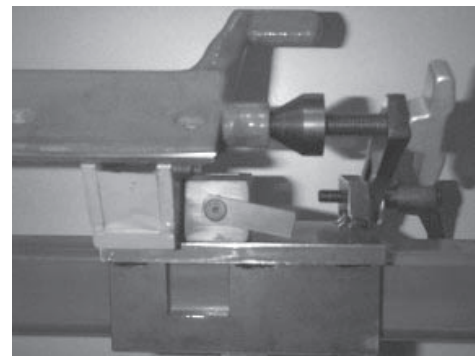
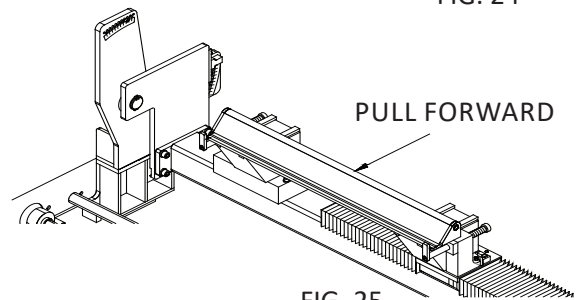

FIG. 24
FIG. 25
2. Position the bedknife so the unworn tips on a used bedknives or the ends of a new bedknife are on the gage tips. See FIG. 24 Pull the bedknife forward firmly against the gauge tip. See FIG. 25.